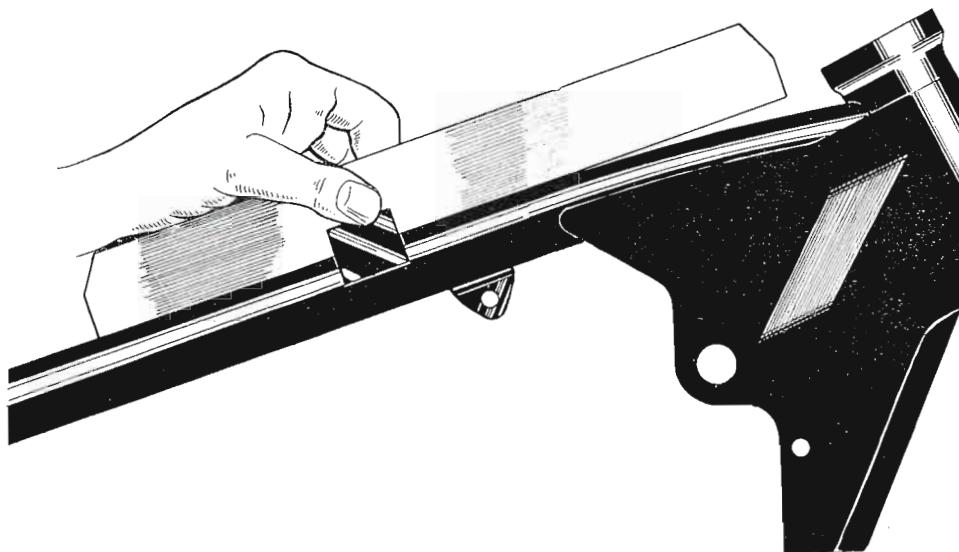

FIG. D.4. *Showing bent top tube.*
Sometimes if the machine has been subjected to a frontal impact, the main tube may remain parallel at points (A) but will be bent as shown in Fig. D.4. A straight-edge made from a piece